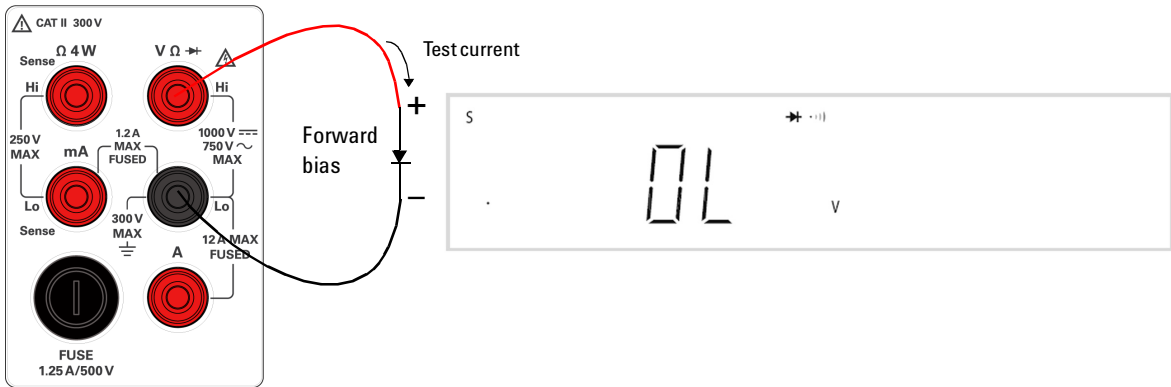

Figure 2-8 Forward-biased diode/continuity test terminal connection and display
- 2 Connect the red and black test leads to the input terminal as shown in Figure 2-8.
- 3 Connect the red test lead to the positive terminal (anode) of the diode and the black test lead to the negative terminal (cathode). Refer to Figure 2-8.